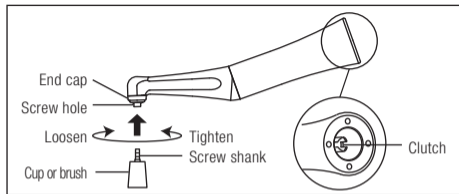

Fig. 4
- 3 Check that the screw part of the cup or brush is inserted to the end. (Fig. 4)
Remove the handpiece from the motor, hold the cup or brush firmly while the handpiece clutch is fixed, and turn it in the loosening direction as shown in Fig. 4.